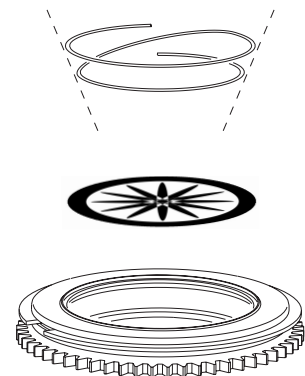

Figure 5: Rotating goboholder
See Figure 5. Gobos are held in rotating holders by a retention spring. Note that the retention spring can only be used with gobos maximum 3 mm thick. Thicker gobos can be glued to the holder with a UV adhesive or Loctite 330 Multibond with Activator.
5. Insert the spring with the narrow end against the gobo, as shown in Figure 5. To identify the narrow end, press the spring flat: the narrow end is on the inside. Push the end of the spring in under the lip of the holder.